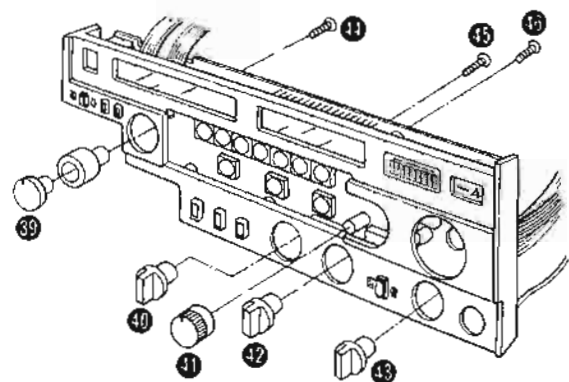

Fig. 9
2. Pull out the knobs 39 ~ 43 of Fig. 9.
3. Remove the 3 setscrews (Fig. 9 : 41 ~ 43) of the printed circuit board.